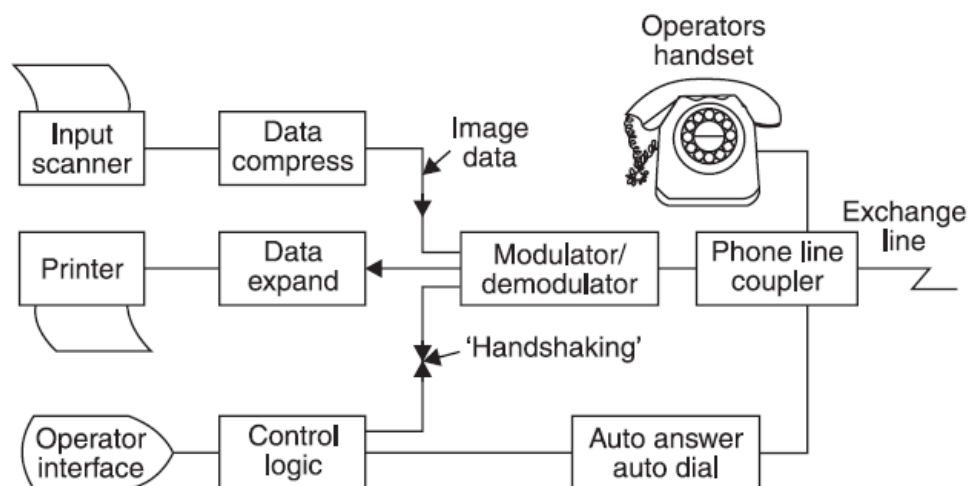

Fig. 4.1 Block diagram of a typical facsimile machine
4. Fig. 4.1 shows the block diagram of a typical facsimile machine. When data is read from an input document it is first compressed and then modulated on to an audio-frequency carrier prior to being coupled to the line. The receive path is the reverse of this.